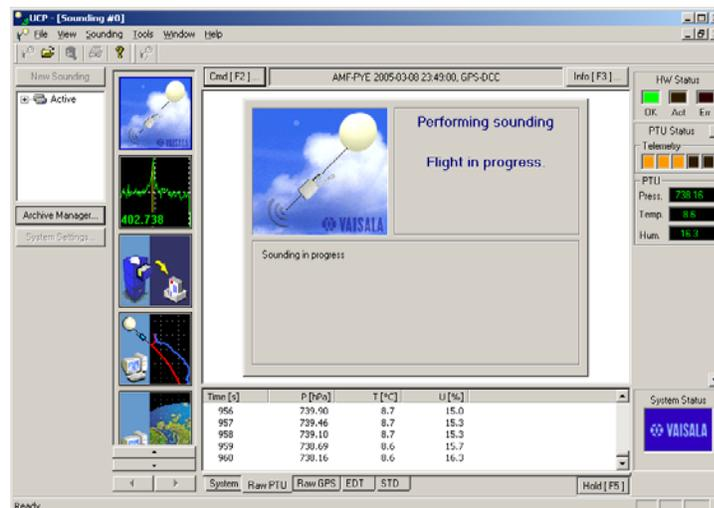

Figure 17
51. Enter wind direction and speed obtained from the Loggernet display on the BBSS computer. Click on "Next." You should see the following screen (Figure 17):